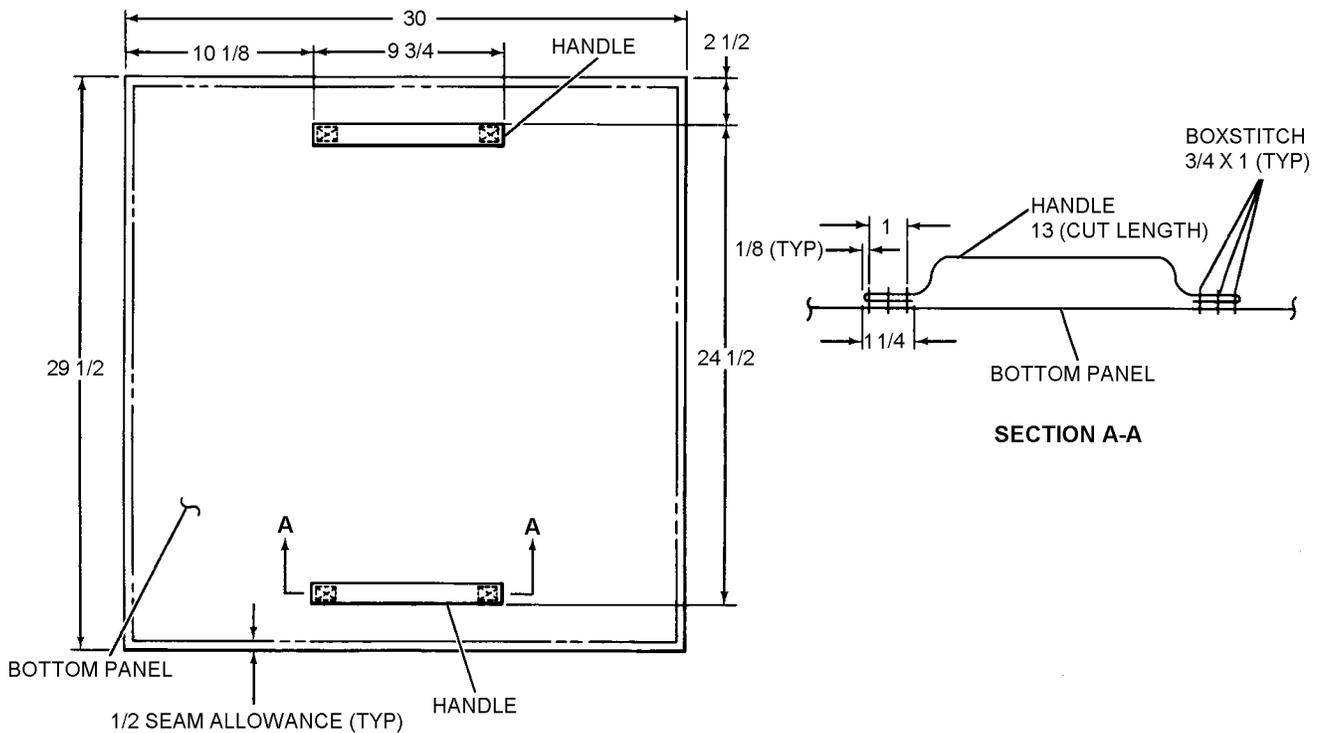

Figure 10-3. Bottom Panel Assembly, LRU-13/A Liferaft Container
2. Fabrication of Bottom Panel. To make the bottom panel, refer to figure 10-3 and proceed as follows:
b. Take the two 13-inch cut lengths of webbing and fold the cut ends under 1 1/4 inches to form handles, and place on the bottom panel. Locate the handles 2 1/2 inches in from the 30-inch edges and 10 1/8 inches in from each 29 1/2-inch edge and stitch each folded end in place with a 3/4 x 1/4-inch boxstitch as shown in figure 10-3, Section A-A.